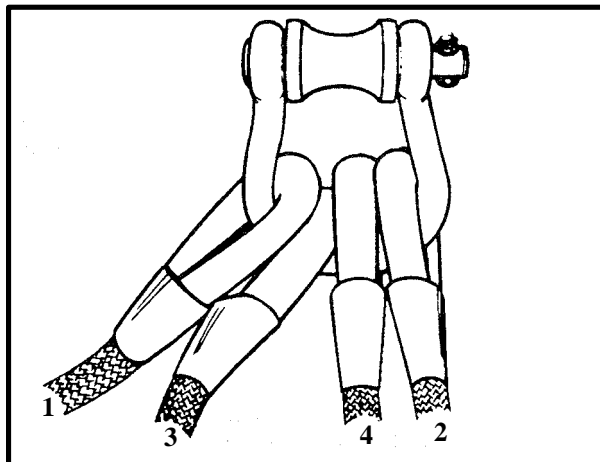

Figure 6-4. Proper Orientation of Apex Fitting
(5) You can continue to use apex fittings without spacers on other aircraft, but you should update your sling sets by ordering the proper spacer. The 25,000-pound capacity apex fitting with a spacer will not pass through the opening in the UH-60 cargo hook.
**NOTE: The pin always goes up and attaches onto the aircraft cargo hook (Figure 6-4).**